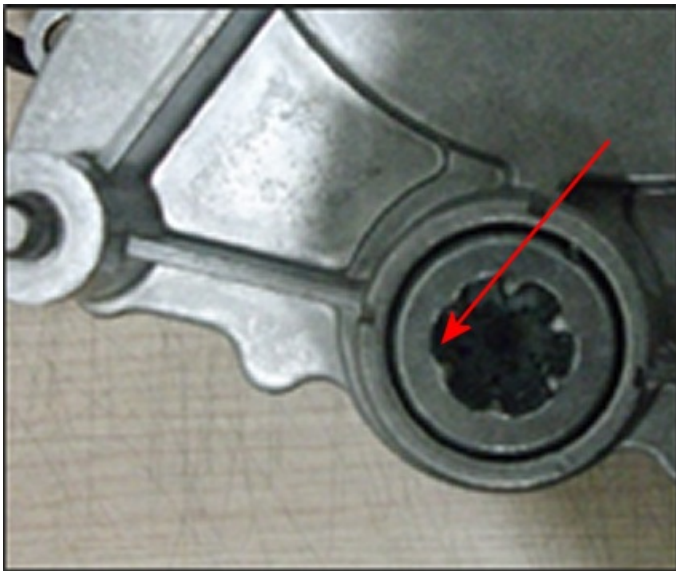

Figure 24
- a. Remove motor and inspect motor spline drive and hinge spline for damage replace damaged components where necessary (see Figure 24)